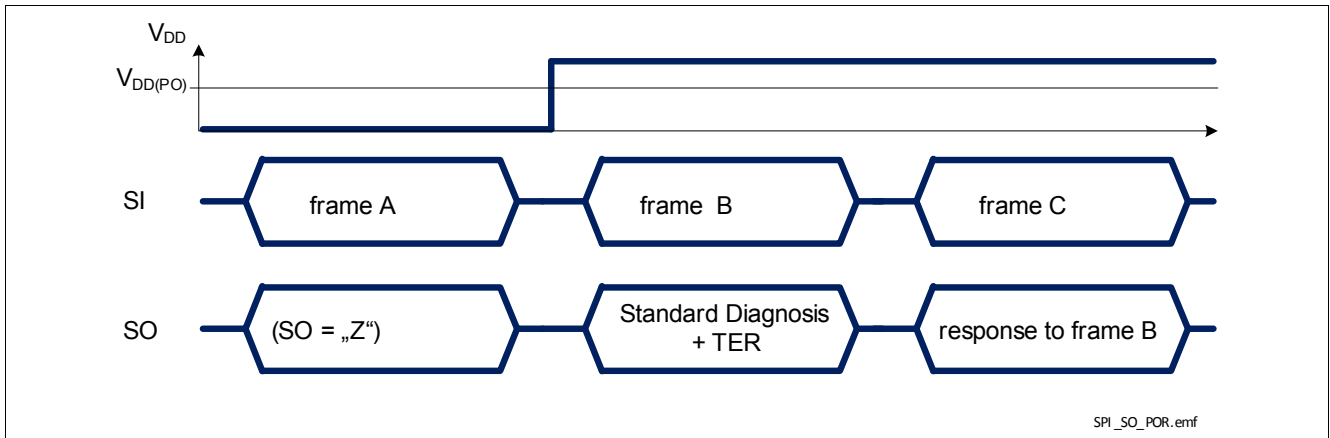

Figure 33 BTS54040-LBB response after coming out of Power-On reset at V_{DD}
- when BTS54040-LBB logic supply comes out of Power-On reset condition, as shown in Figure 33